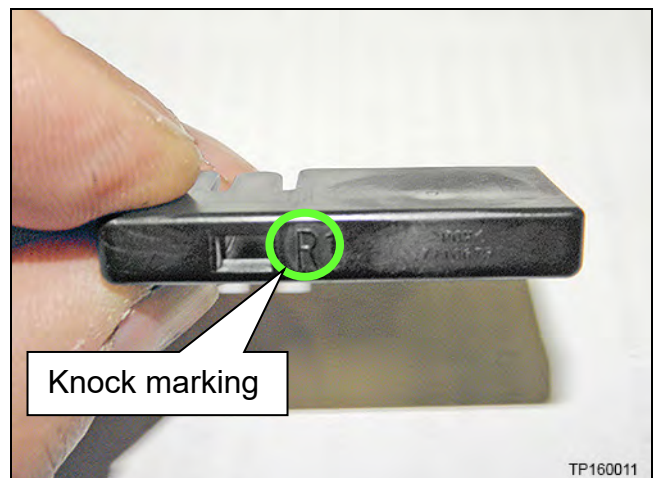

Figure 50
NOTE: Knocks are marked left (L) and right (R). Figure 50 shows a knock for the passenger side and is marked “R”.